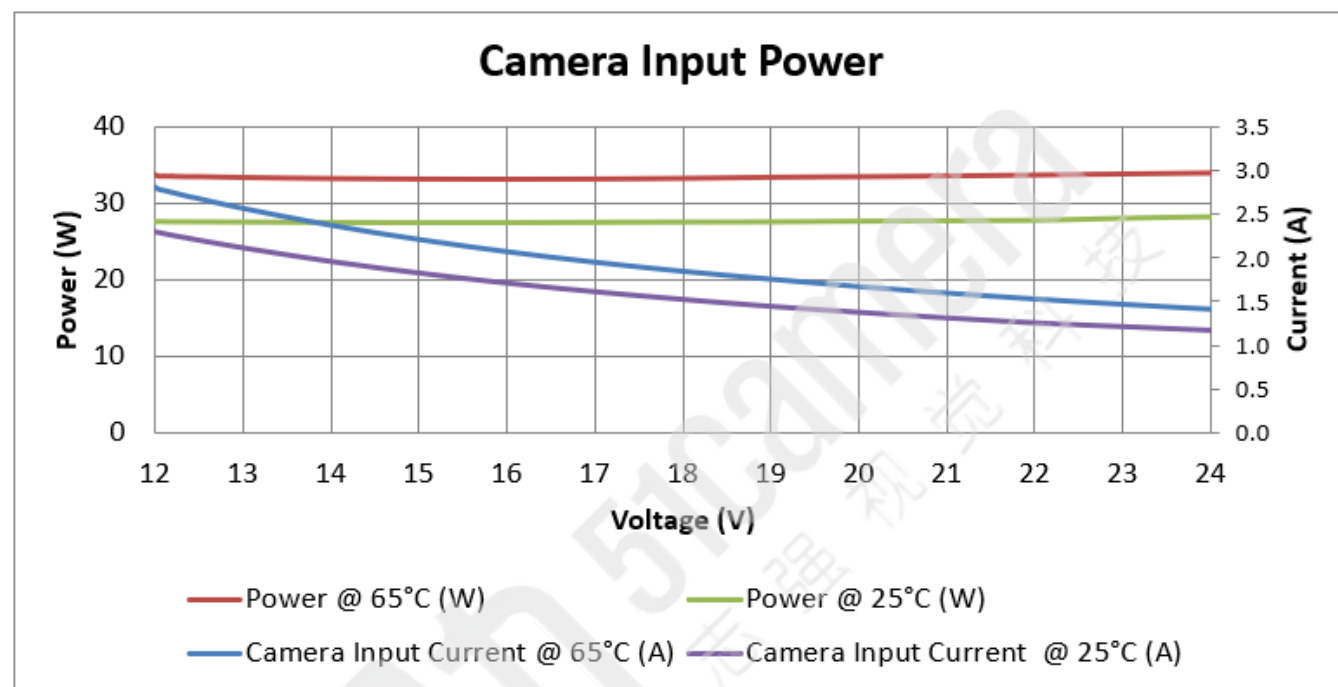

Figure 1: Power and Temperature*
- Power dissipation increases with temperature. See Figure 1: Power and Temperature.